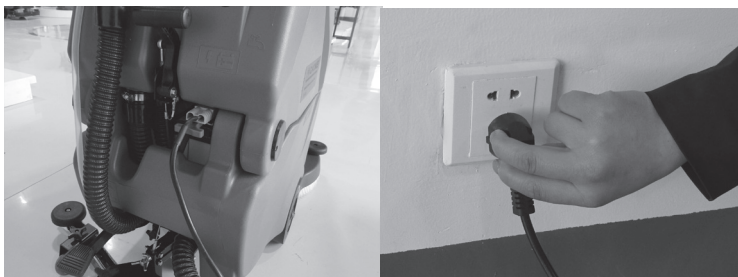

Figure 27
5. Connect the charger's DC cable to the battery charging port on the back of machine (Figure 27).